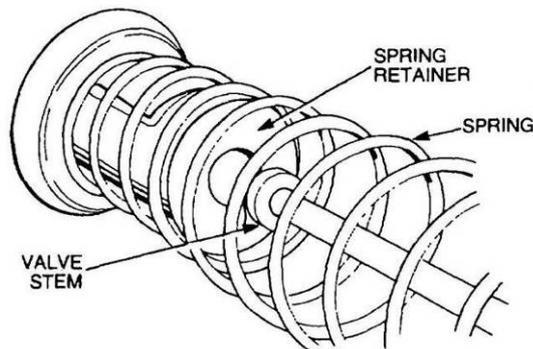

Figure 156 Reassembly of the Valve Stem
- f. Compress the spring and engage the valve stem in the keyhole slot provided in the retainer (Figure 156).